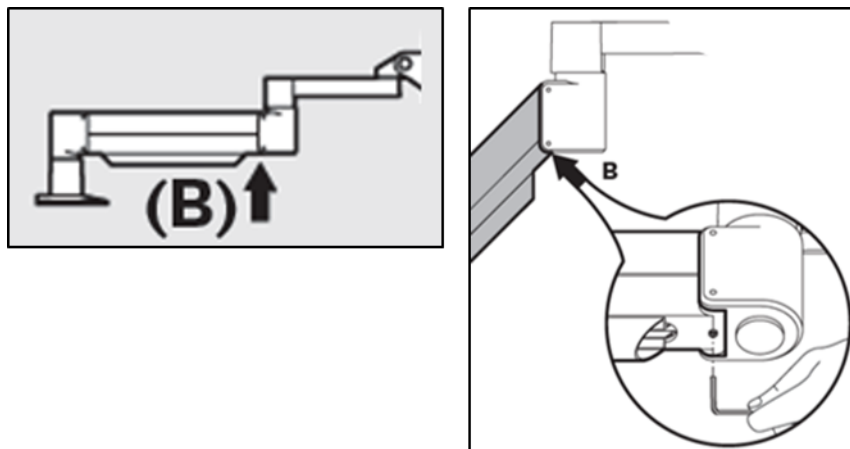

Figure 4-4. Loosen Counterbalance Set Screw B
- Reposition the arm horizontally. Loosen the upper Counterbalance Set Screw B by turning the screw at least a $\frac{1}{2}$ turn. Use a $\frac{3}{32}$ Allen Wrench. See Figure 4-4.
- Position the arm horizontally and tighten Counterbalance Set Screw B until contact is made, then tighten $\frac{1}{2}$ to $\frac{3}{4}$ revolutions. See Figure 4-4.